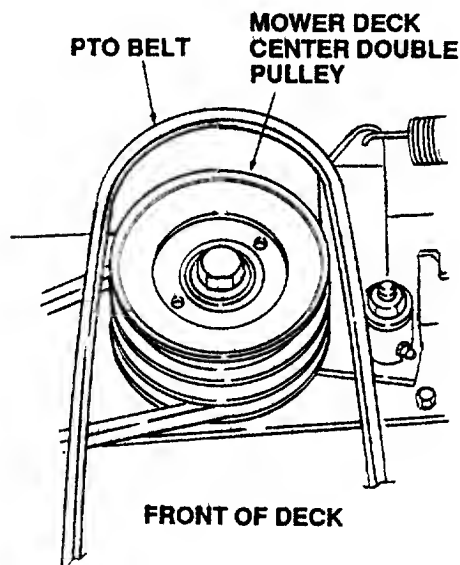

Figure 37
5. Remove the rearward end of the PTO belt from the upper pulley of the deck center double-pulley (Refer to Figure 37).